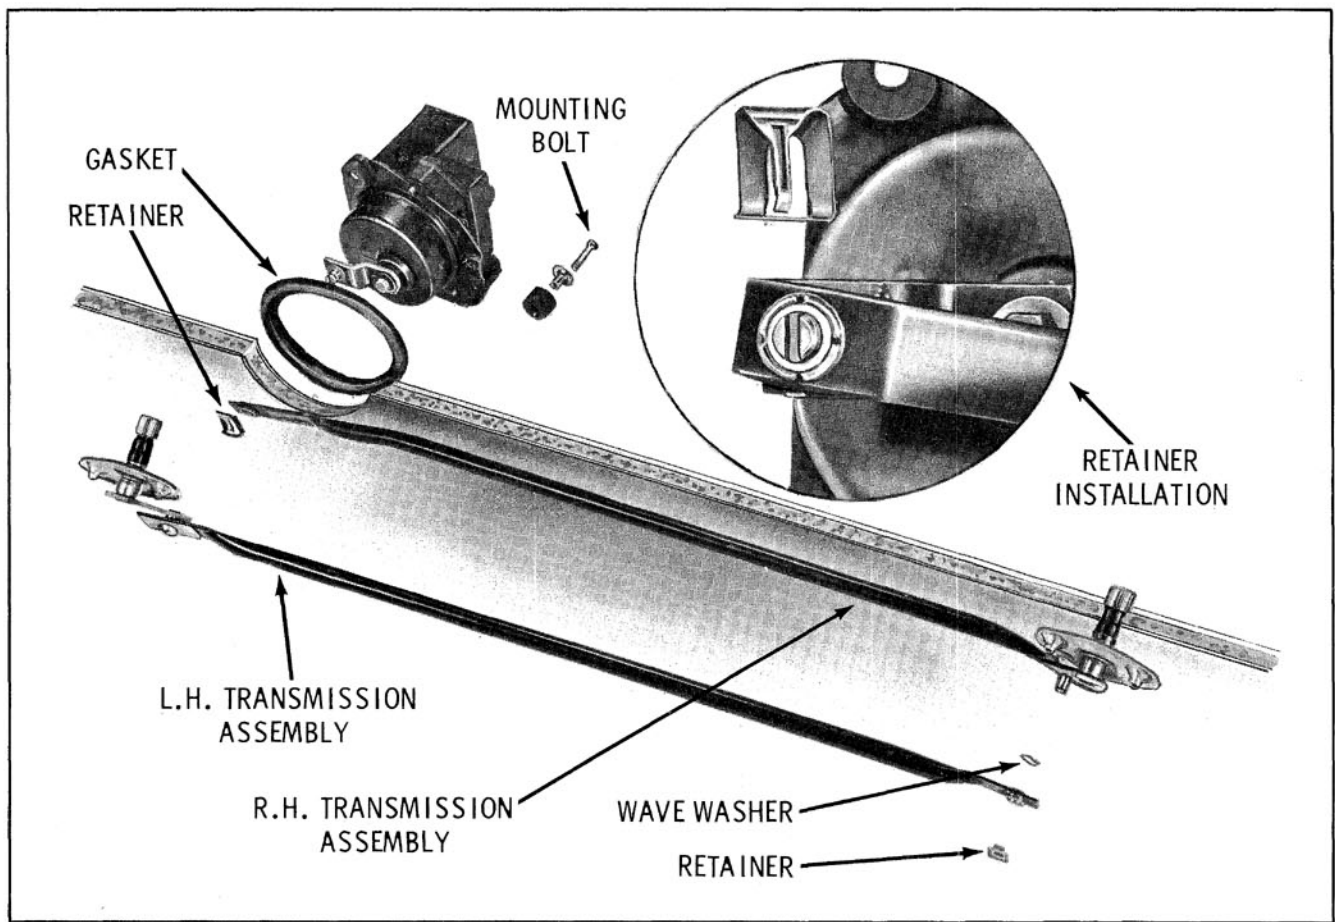

Fig. 13-123 Typical Retainer Installation
2. Detach transmission drive linkage retainer from wiper motor crank arm. (Fig. 13-123)